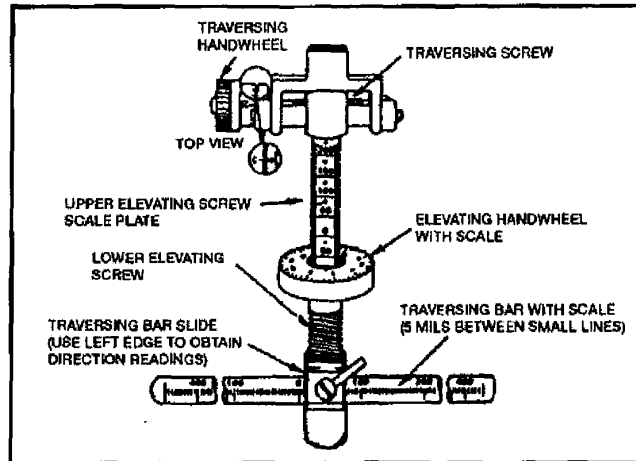

Figure 071-000-0005-4. Traversing and elevating mechanism.
f. Label the targets in the primary sector in their order of priority. Label the FPL or PDF with the number "1" (figures 071-000-0005-2 and 071-000-0005-3).
g. Sketch in the secondary sector of fire (E, figure 071-000-0005-1).
(1) Label the range (in meters) from the gun to each target in the secondary sector.
(2) Sketch in aiming and elevation stakes between the gun position and the target as shown in figures 071-000-0005-2 and 071-000-0005-3.
5. Using the T&E mechanism, determine the direction, elevation, and range to each target. Write this information in the DATA SECTION of the range card, as follows (figures 071-000-0005-2 and 071-000-0005-3):
- (1) Lay the gun on the base of the target.
- (2) Read the direction on the traversing bar at the left edge of the traversing bar slide (figure 071-000-0005-4).
- (3) Determine by the direction of the barrel whether the reading is right or left.
- (1) Lay the gun on the base of the target by rotating the elevating handwheel (figure 071-000-0005-4).
- (2) Read the number (including a "+" or "-" sign, unless the number
is "0") above the first visible line on the elevating scale. (In figure 071-000-0005-4, this reading is "-50.")
(3) Read, from the elevating handwheel, the number in line with the indicator. (In figure 071-000-0005-4, this reading is "3.")
6. Record the data you found using the T&E mechanism (figure 071-000-0005-4).